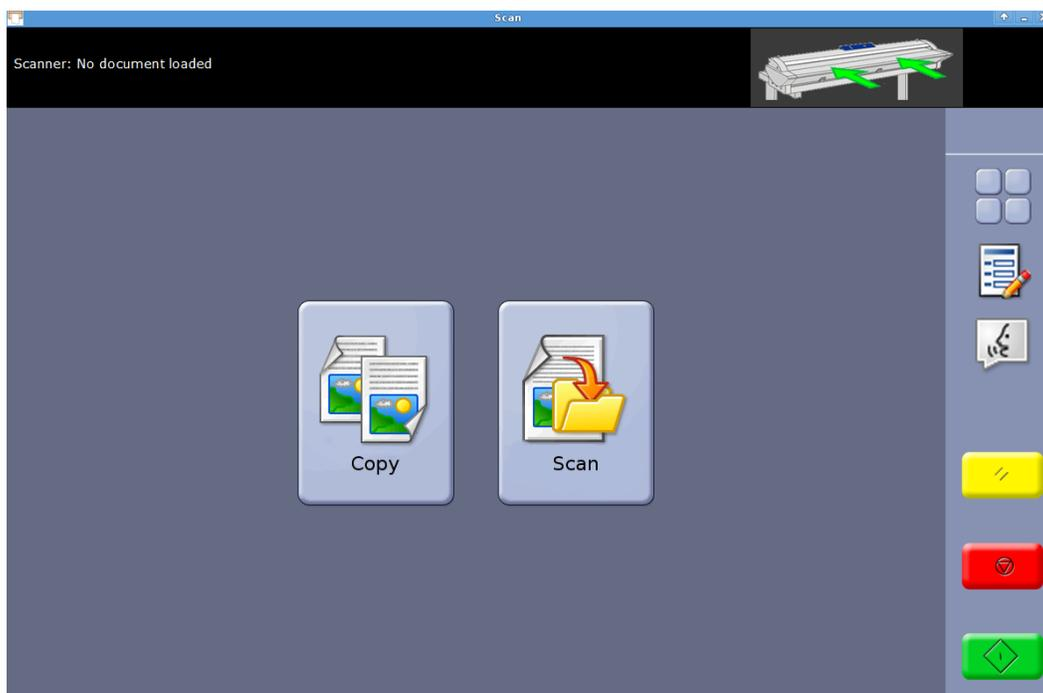

Fig 2 Services screen
- When the user is operating in the Copy or Scan interface, the Main Menu button returns the user to the Services screen (Fig 2).